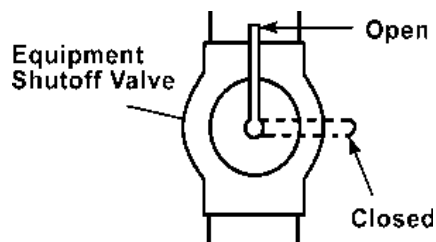

Figure 8 -Equipment Shutoff Valve
1. Open equipment shutoff valve (see Figure 8).
1. Close equipment shutoff valve (see Figure 8).